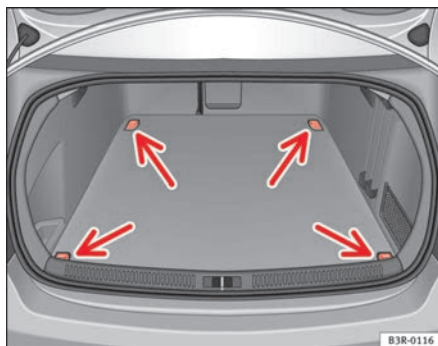

Fig. 115 Location of fastening rings in luggage compartment
- Use the fastening rings to secure the load ⇒ fig. 115 -arrows-.